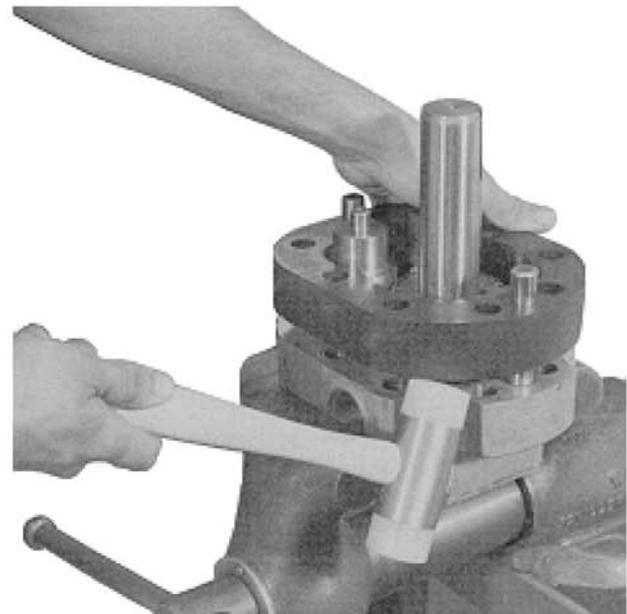

FIGURE 3
4.) Removal of the displacement housing. (Fig. 3) the dark center portion of the assembly, is carried out similar to step 3. There are two scallops in the rear end cap. It is this area that you tap to remove the housing. (Fig. 3) Never use screwdriver or pinch bar to remove this part. It is extremely easy to damage the end cap faces. The dowel pins will remain the the displacement housing. Unless you are replacing the housing, leave them intact. The dowels are a press fit.